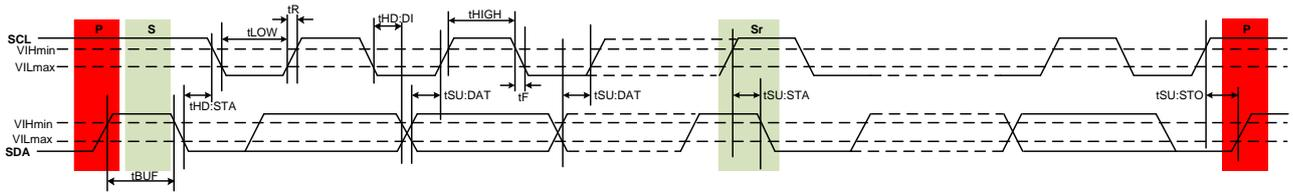

Figure 18. I²C or I³C Basic Bus AC Input Timing Parameter Definition
2. See Figure 18 for input timing parameter definition.
10. The SPD5 Hub device must be in configured in I³C Basic mode to guarantee t_{DOUT} value. See Figure 18. I²C or I³C Basic Bus AC Input Timing Parameter Definition
The SPD5 Hub device follows the I²C or I³C Basic bus timing requirements. The Figure 18. I²C or I³C Basic Bus AC Input Timing Parameter Definition